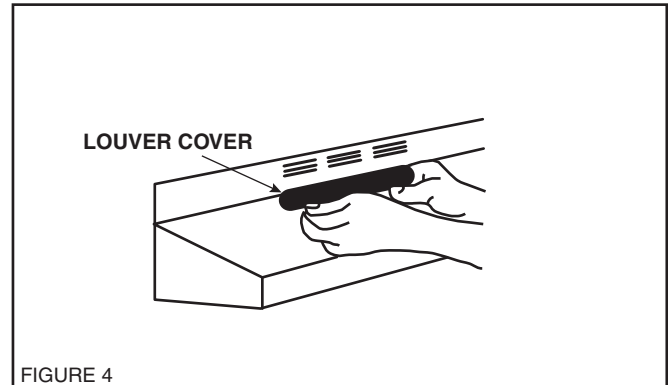

FIGURE 4
**NOTE: If the range hood is to be installed as a ductless unit, do not remove any knockouts. Remove louver cover from front of hood and discard. Refer to figure 4.**
7. Insert four (4) mounting screw (not supplied), leaving approximately 1/4" of thread exposed. Use no. 8 or no. 10 round head screws.